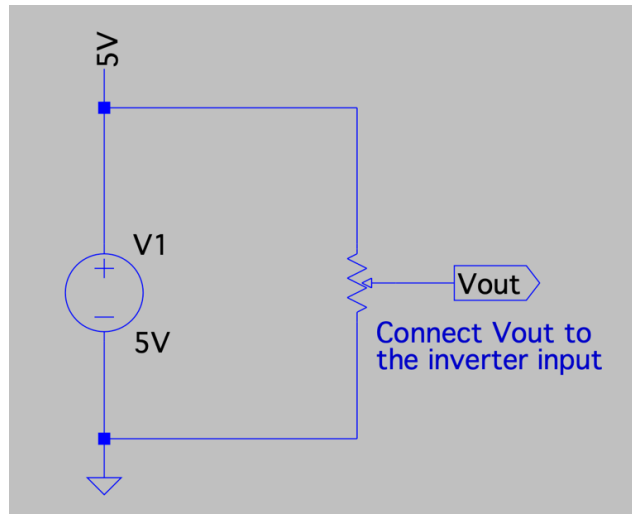

Figure 3 – Potentiometer circuit used for inverter input voltage
2. Add the potentiometer circuit shown in Figure 3 (also used in Lab 1) and connect its middle pin to the input of the inverter.